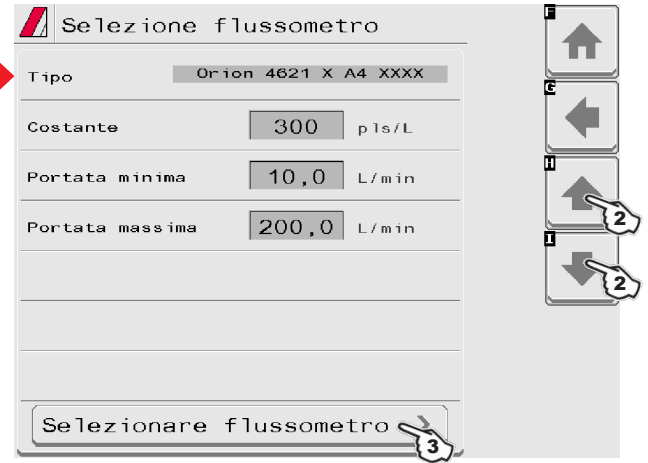

Fig. 40
- 1 Set installed flowmeter by selecting it from the list in Fig. 40 (use keys 2 to scroll items, and key 3 to confirm).